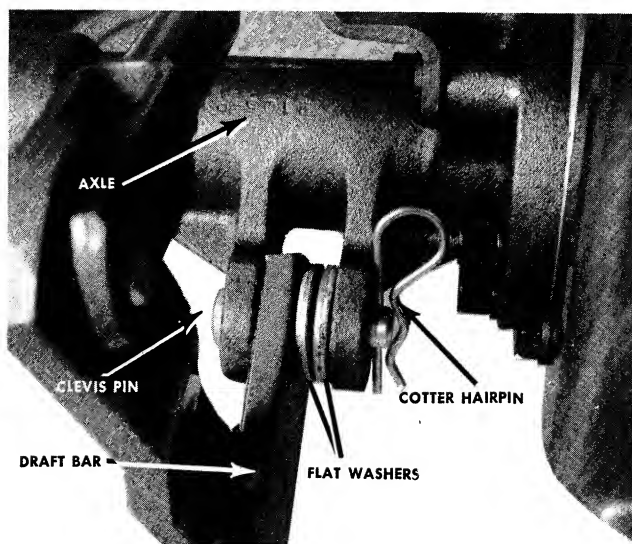

FIGURE 5. DRAFT BAR ASSEMBLY
Step 2. Assemble the right hand draft bar assembly to the axle bracket using the longest clevis pin, two large washers and a cotter hairpin. See Figure 5.